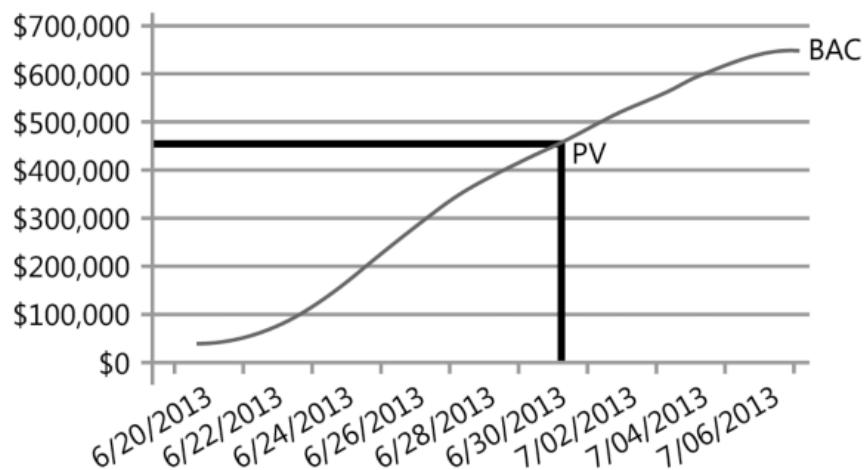

FIGURE 5-4 The project cost baseline showing Planned value (PV) and budget at completion (BAC).
1. **Budget at completion (BAC)** The original forecast budget for the project. The BAC is also the total Planned Value (PV) for the project.
2. **Planned value (PV)** The amount of value that you should have earned by this time in the project. Because the total *planned value* (PV) for a project equals the budget at completion (BAC), you can determine the planned value by simply determining how far through the project you are in relation to time, and mapping this back to the approved cost baseline to establish the planned value. Figure 5-4 demonstrates how to determine the PV from the BAC.